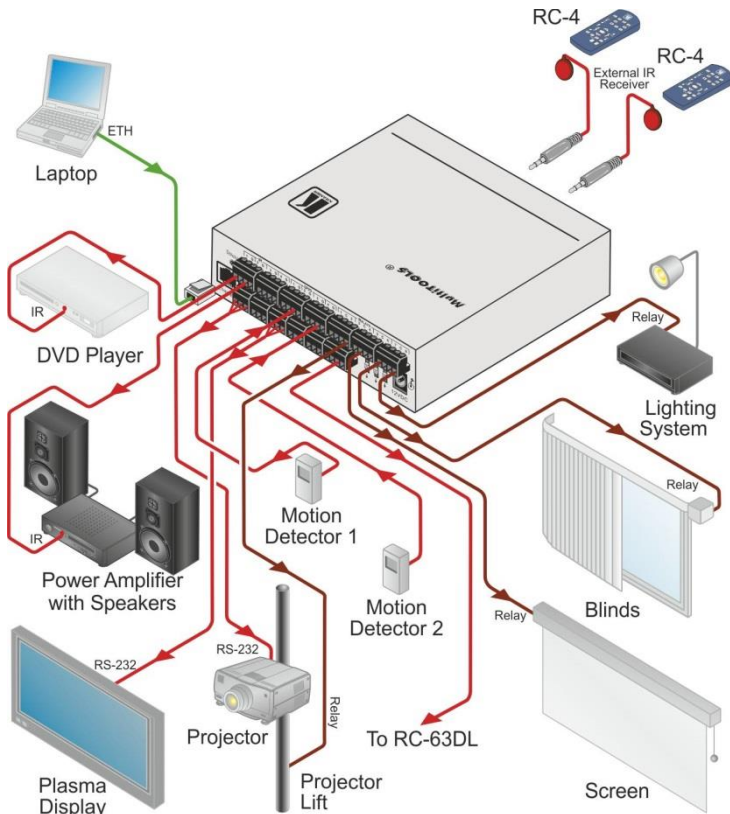

Figure 2: Connecting the SL-12 Master Room Controller
To connect the **SL-12** as illustrated in the example in Figure 2:
6. Connect the RS-485 to several Kramer matrices, for example (not shown in Figure 2).